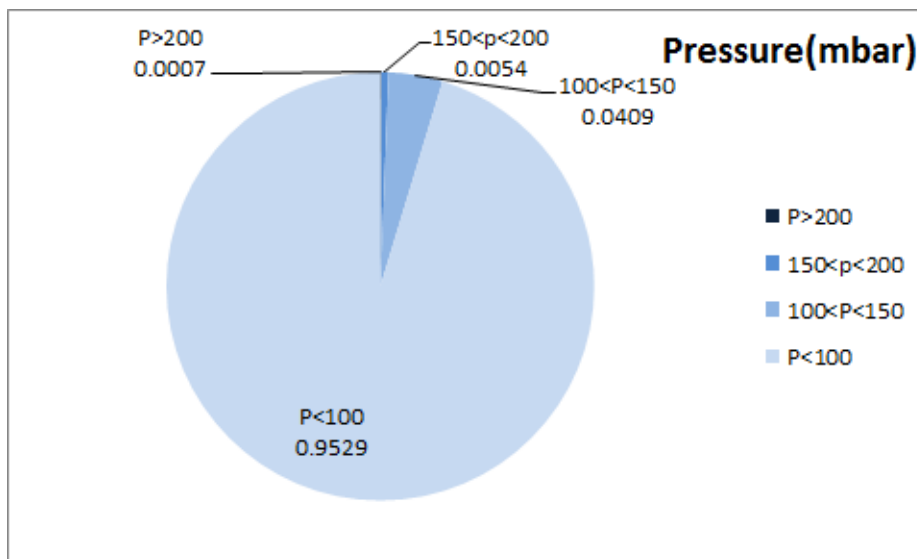

Figure 1- Pressure distribution over the working hours
- As depicted in Figure 1, only 0.07% of total working-time pressure is above 200 mbar and 0.61% above 150mbar. So it can be concluded that operation of this filter is fully acceptable in this condition.